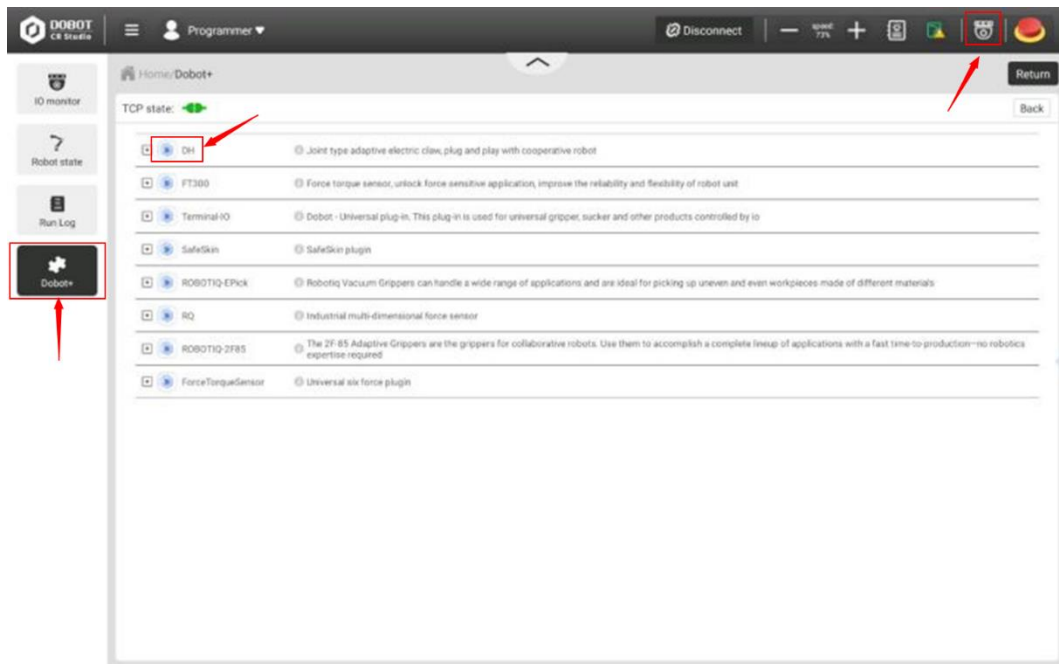

Figure 3.6 Install DH plug-in
**Step 1** Click **Monitor** or  to enter the monitor page. Select **Dobot+** in the left-side menu, as shown in Figure 3.6. Double click the **DH** plug-in to install it.